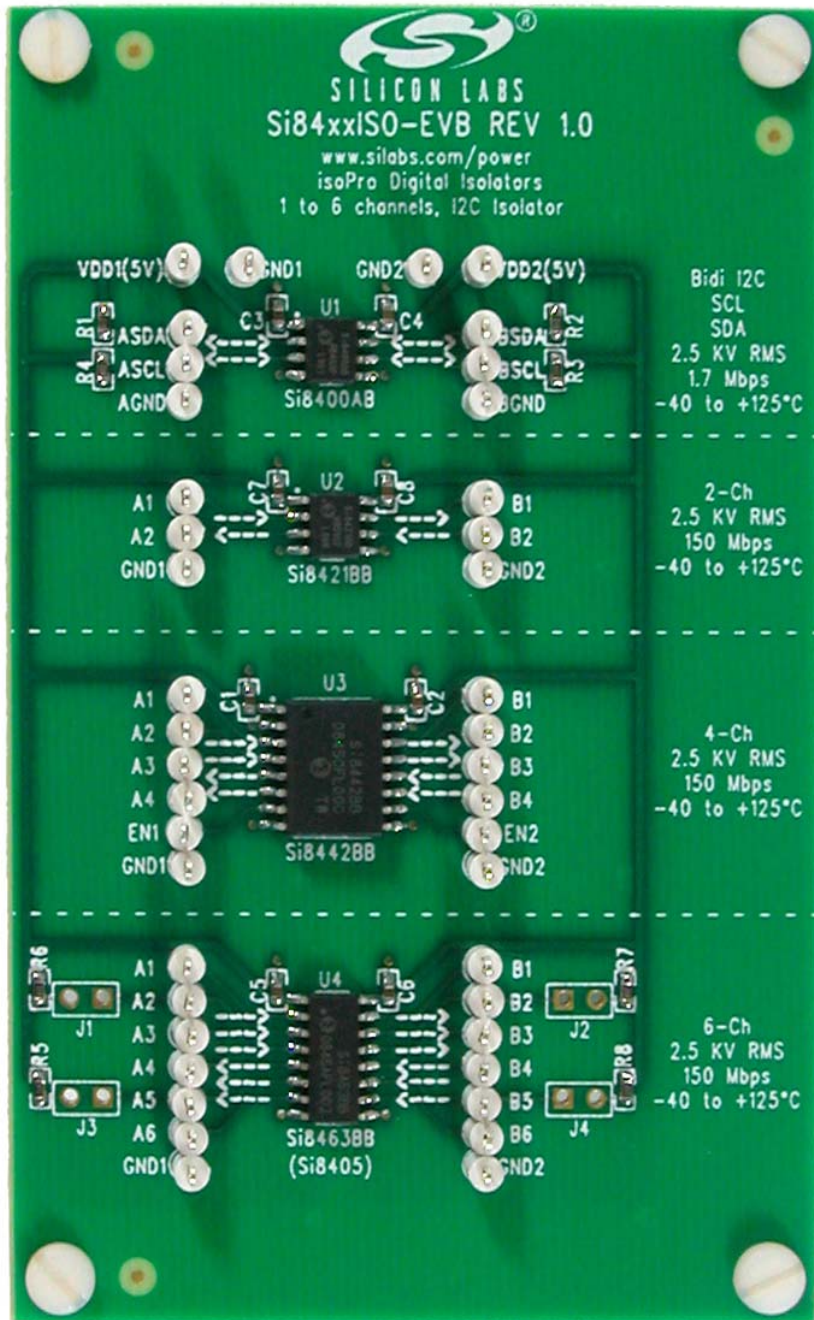

Figure 1. Si84xxISO Evaluation Board Overview
- Si84xxISO based evaluation board (Si84xxISO-EVB or Si84xx5kVISO-EVB) shown in Figures 1 and 2.
The Si84xxISO evaluation board (see Figure 1 on page 2) provides a means to evaluate the Si841x,2x,3x,4x,5x,6x digital isolator families as well as the Si8400 isolated I²C family. After power has been supplied to the board, connect a digital input signal (5 V_{peak} max, with desired clock frequency up to 150 Mbps) to the desired input channel. To view the isolated channel's data transmission, connect a scope probe to the output channel of interest. There are various inputs and outputs on either side of the board depending on the device one chooses to evaluate, as indicated by the silk screen. The board can be used to measure propagation delay, pulse-width distortion, channel-channel matching, pulse-width skew, and various other parameters.